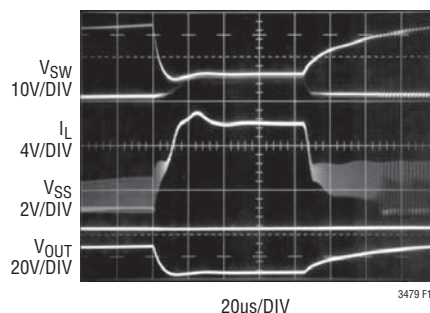

Figure 10. Output Overload with Inrush Current Protection Disabled
shows an output overload with inrush current protection disabled. Notice that soft-start remains high, and that the inductor current does not return to zero. Figure 10 illustrates the benefits of inrush current protection. The output short initiates a new soft start cycle reducing the inductor current. After the fault has passed, the inductor current slowly returns to its equilibrium value. To ensure bond wire integrity, the inductor current should not exceed 8A for more than 10ms.
Figure 10 is a line graph showing Efficiency (%) on the y-axis (ranging from 50 to 80 in increments of 5) versus Load Current  $I_{OUT}$  (A) on the x-axis (ranging from 0 to 1.0 in increments of 0.2). Three curves are plotted, representing different input and output voltage conditions: